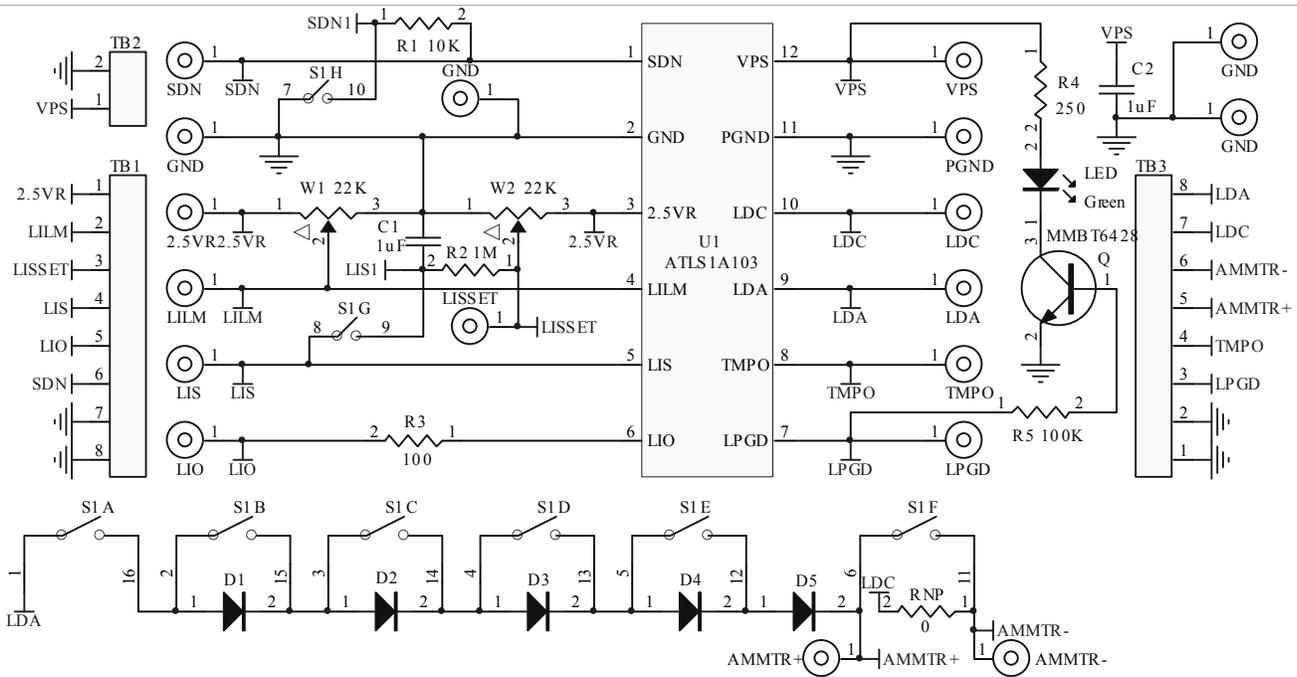

Figure 7. Schematic of ATLS1A104DEV1.0
The schematic is shown in Figure 7 below.
- Turn the switch S1F to its lower off position, thus the output current goes through the ammeter and can be measured by reading Ammeter's value.; when the switch S1F is placed in the upper on position, the ampere meter is shorted, thus, it does not measure the output current, see the schematic shown in Figure 7.
- 6. Test the controller with the “dummy laser”. The 5 diodes on the board, D1 to D5, can form a “dummy laser” to act as the laser diode in the place of a real laser so that in case there is a problem in the circuit, the expensive laser would not be damaged, see schematic in Figure 7. Turn the switch S1A to the on position (upper), to connect the “dummy laser” to the controller. Turning switches S1B, S1C, S1D and S1E, up and down will increase (turning down the switches) and decrease (turning up the switches) the forward voltage of the “dummy laser” which can be measured by a volt meter between the LDA and the ground. Each diode can increase or decrease the output forward voltage by about 0.7V when the output current is 1A. **Warning: when output 1A current, the diodes may get very hot, don't put your fingers on them.** The switch bank and their corresponding diodes are shown in the table below. The diode D5 is always activated so that the total forward voltage range is from 0.7V to 0.7V + 0.7×4 = 3.5V. Please be aware of this fact: when the output voltage is low by shorting circuit all the diodes, the controller will need to consume a lot of power and may get too hot that the internal temperature protection circuit shut off the controller automatically. When this happens, wait for a few seconds, let the controller cool down, the controller will restart by itself again after the temperature is lowered to certain level. This is the way to calculate the power consumption of the controller: